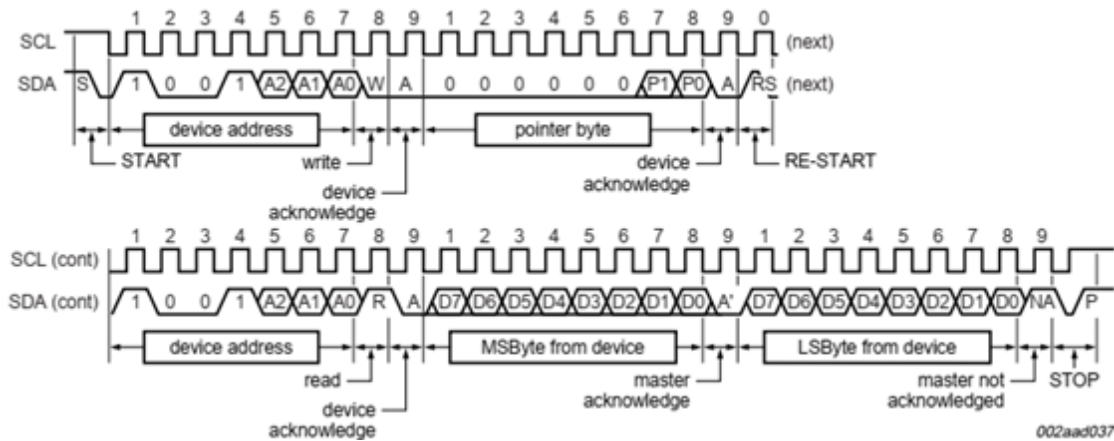

FIGURE 2.5 – Read Temp, Tos or Thyst registers including pointer byte (2-byte data).
4. Complete the `lm75a_readRegisterWithPointer()` function to read *Temp*, *Tos* or *Thyst* registers including pointer byte by helping you figure with the Figure 2.5. Build the program.